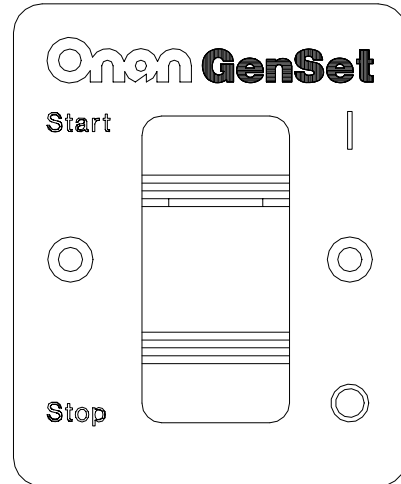

FIGURE 6. START/STOP SWITCH ONLY PANEL
- Remote panel with start/stop switch and indicator lamp only (see Figure 6).